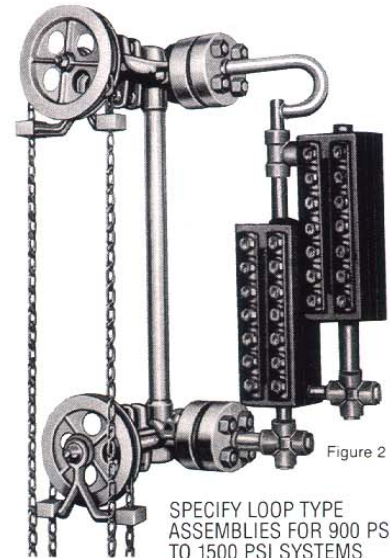

Figure 2
*Tiltview Gage Assemblies may be offset right or left. Right hand offset, Figure 2, is furnished unless otherwise specified.*